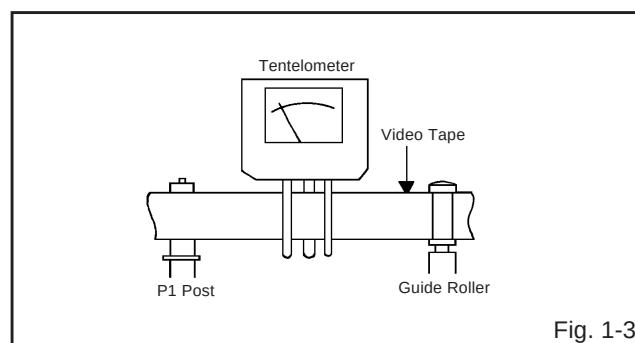

Fig. 1-3
2. Install the tentelometer as shown in **Fig. 1-3**. Confirm the value is within $20 \sim 27\text{gf}$ at this time.